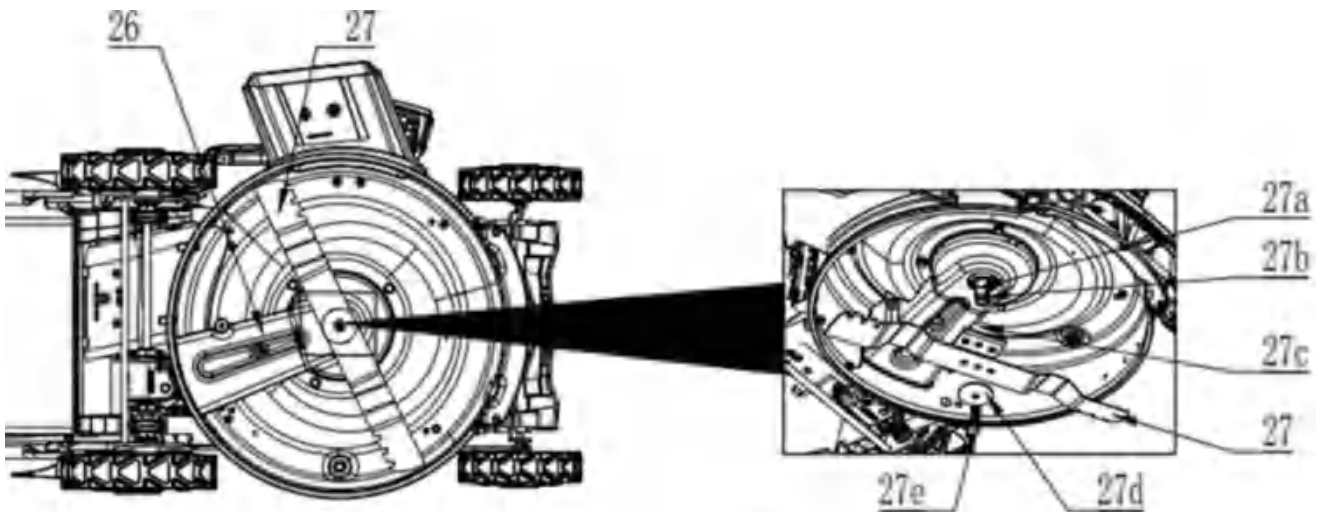

Fig. 24
1. Keep the under body and cutting blade (27) clean and free of debris. Remove clippings from the rear discharge chute.
2. Check all nuts and bolts periodically for tightness before operation. After prolonged use, especially in sandy soil conditions, the cutting blade (27) will become worn and lose some of the original shape. The cutting efficiency will be reduced and the cutting blade should be replaced.
3. Keep the cutting blade (27) sharp to ensure a good cutting performance. Replace a worn or damaged cutting blade with a new one of the same type or have it sharpened by a qualified specialist.
4. If jacking the product is not possible, tilt it to the right side so that the fuel tank cap (9) side is up. This helps to prevent fuel leakage and harder starting due to flooding of the carburetor (10).
5. Loosen the hex bolt (27e) counterclockwise using a suitable wrench (size 17 mm) and remove it together with the cup washer (27d), the cutting blade (27), the blade holder (27c) and the pin (27b) from the spindle (27a) (Fig. 24).
7. Replace the cutting blade (27) with a new one of the same type. Check the status of the flange onto the blade holder (27c), then attach the cutting blade (27) properly and fix the assembly with the cup washer (27d) and hex bolt (27e). Tighten the hex bolt (27e) clockwise with 40-45 N.m to ensure safe operation of your product (Fig. 24).